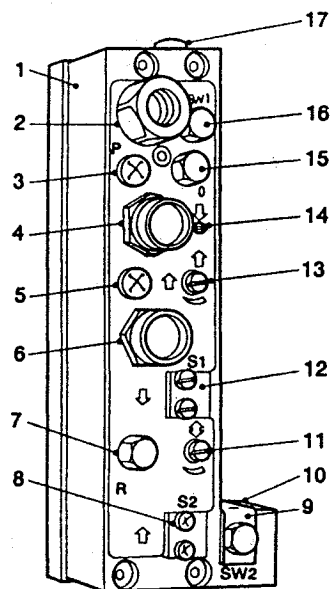

FIGURE 3 VALVE BLOCK MODULE COMPLETE
CONTROL VALVE (FIGURE 3)
Fully open the Figure 3 (13).
Close Figure 3 (11/14).
Connect the air supply and press Figure 3 (6).
Adjust Figure 3 (11/13/14) to give the required advance, retract feeds for the operation.
Carry out a set of trial drillings to determine the ideal advance and HCU settings using Figure 3 (11/14).